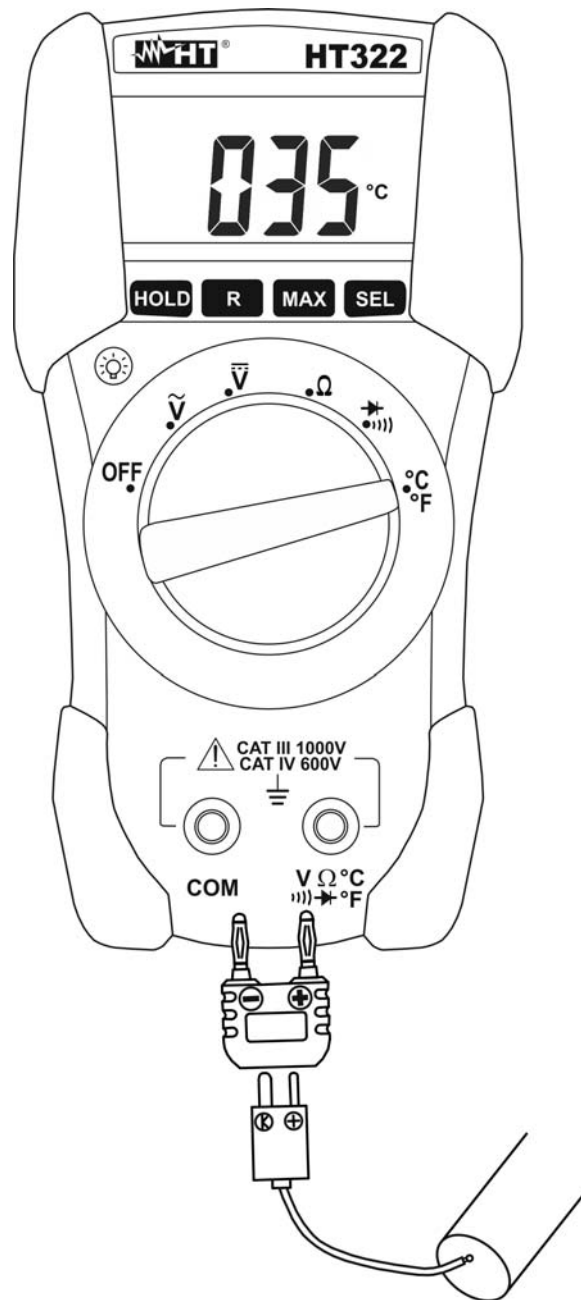

Fig. 6: Using the instrument for Temperature measurement
3. Insert the T10 adapter optional accessory into **VΩ°C/F** jack, and **COM** jack with respect of red and black colours (see Fig. 6)